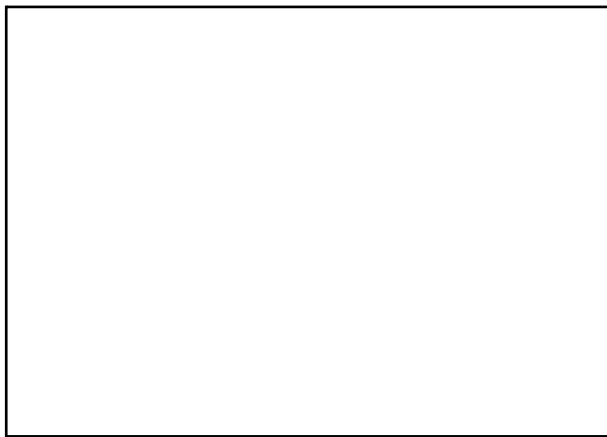

Fig. 1
- Unscrew fuel filter cartridges (1 and 2, Fig. 1) and discard without polluting the environment.